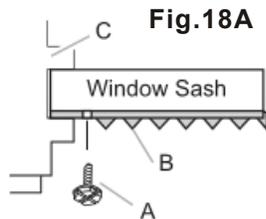
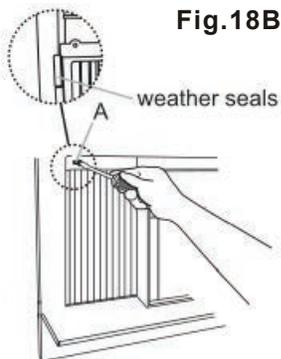

Fig.18A
Fig.18B
5. Use 1/8" drill bit to drill a starter hole through the hole in the top leg of each window filler panel and into the window sash. (Fig. 18A and Fig. 18B.) Connect with one 3/4" (or 1/2") long hex head screw.